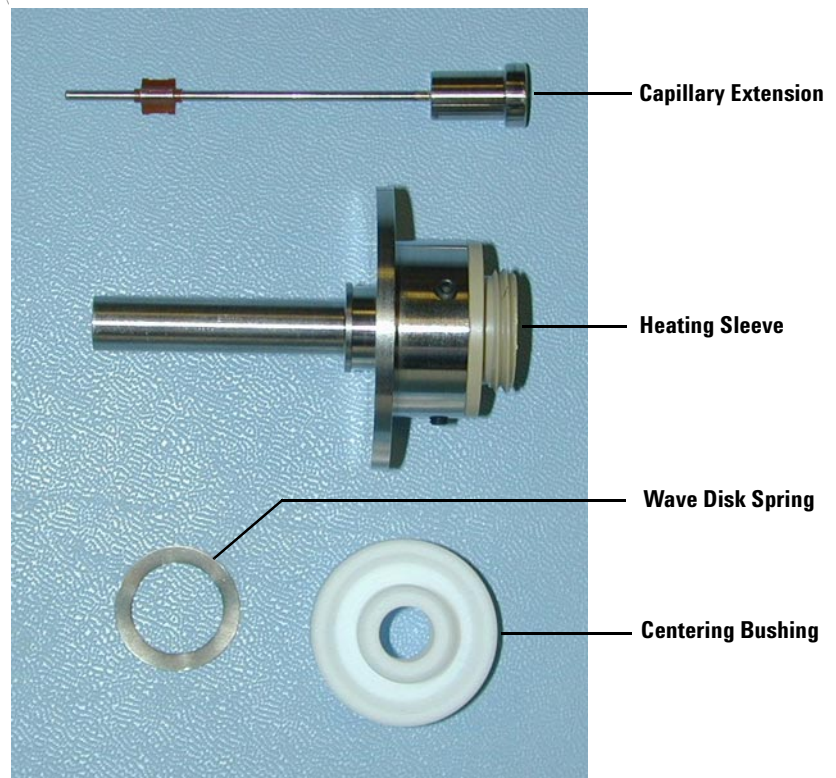

Figure 86 Capillary Extension components
- Capillary Extension - Figure 86.
- Heating Sleeve - Figure 86.
- Centering Bushing - Figure 86.
- Wave Disk Spring - Figure 86.